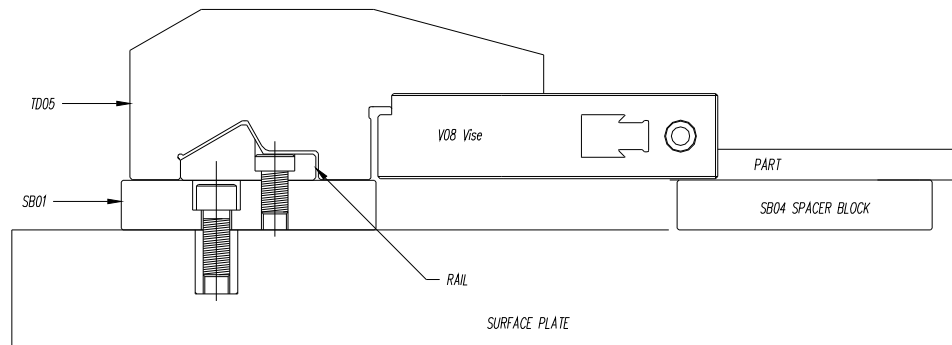

Figure 4
STEP 5. Place the work piece on the SB04 and carefully slide them up to the bed of the V08 as shown in Fig. 4.